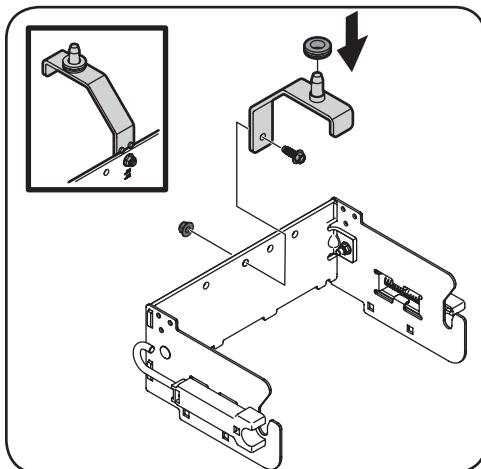

Figure 1-2
3. Flip over bracket assembly and mount the bracket support assembly (ref. #2) on the center hole of the rear support bracket using the hex screw (ref. part #8) and flange lock nut (ref. part #10). See Figure 1-2.
4. Attach the rubber grommet to the pin at the bottom of the bracket support assembly. See inset in Figure 1-2.